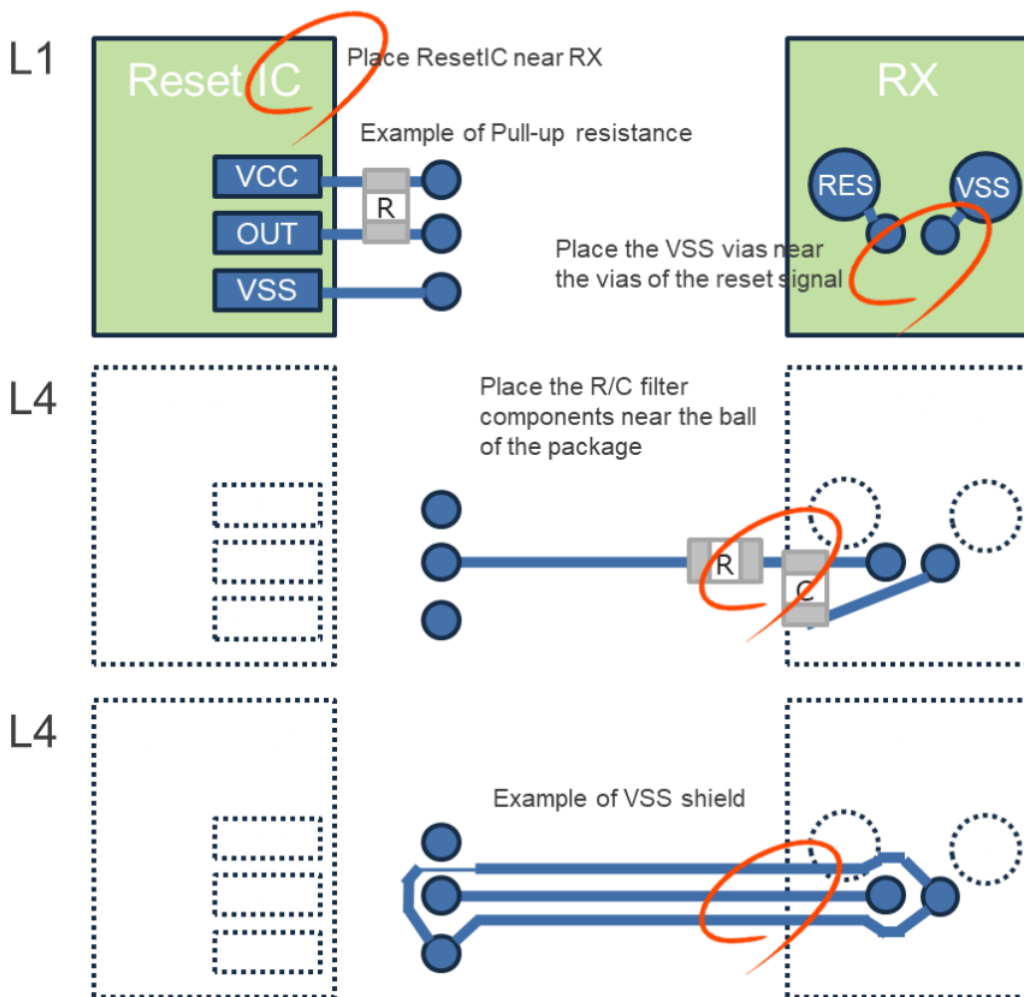

Figure 14, Recommended Design Image for Reset (Top View)
- When connecting directly to the reset IC, place the reset IC as close to the microcontroller as possible (See Figure 14).
- When suppressing noise, it is recommended to insert a low-pass filter. (VSS shielding is not required when inserting a low-pass filter.) (See Figure 14)
- Keep a distance from other signals (especially traces with large currents and high-speed signal traces), and shield them with a VSS that is wide and has multiple THs (See Figure 14).